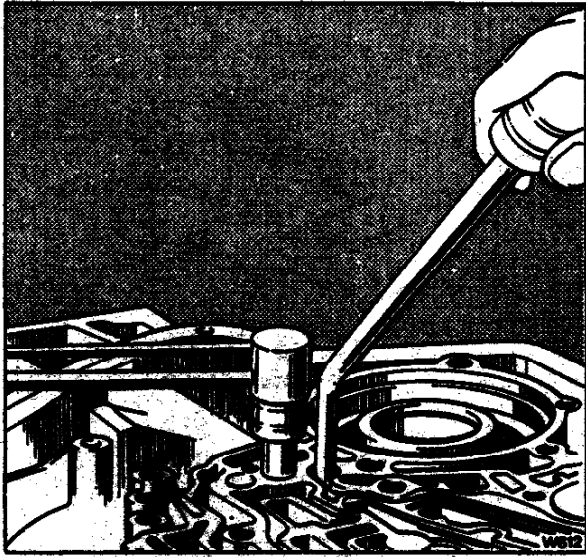

**Fig. T124 Fitting the rear band**
1. Fit the rear band assembly into the transmission case so that the band lugs engage with the anchor pins (see Fig. T124).